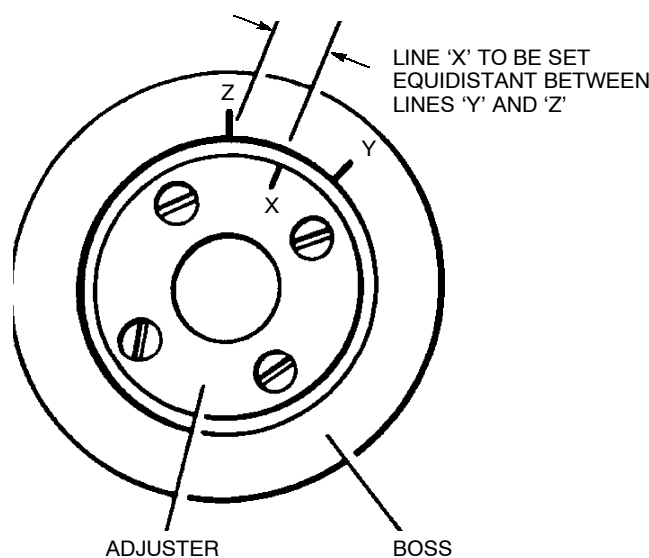

FIG 5.7 BEARING ADJUSTER CLEARANCE
- 10.8 Mark a permanent line "X" (See Fig 5.7) approximately 6mm (0.25") long from near the edge of the adjuster.
- 10.12 Reset the bearing adjuster (11) by screwing the adjuster inwards to bring line "X" (Figure 5.7) equidistant between lines "Z" and "Y". Lock the adjuster with the counter sunk screw (12).